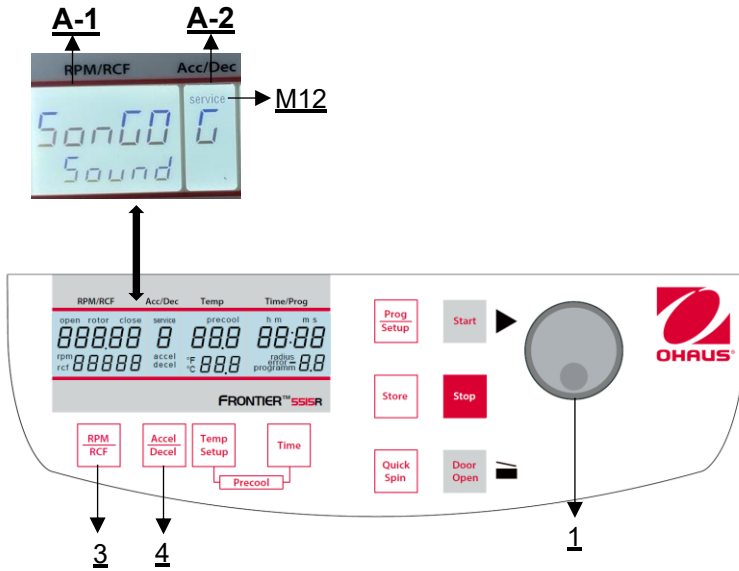

Figure 33
Proceed as described under point 4.1.1 to enter this program mode and then press the key "Accel/Decel" (4). In the display "Acc/Dec" (A-2) the word "Service" (M12) flashes. Now select the letter "G" with the adjusting knob (1). As a result, the words "SonGo/Sound" appear in the display "RPM | RCF" (A-1). After pressing the key "RPM | RCF" (3), you can select a song with the adjusting knob (1) (see Figure 33).